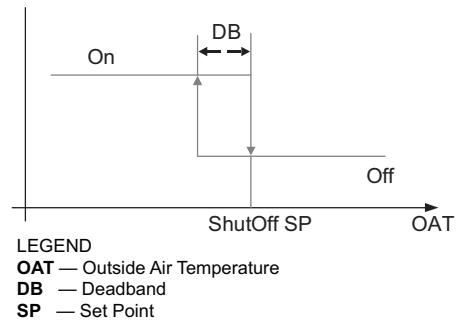

Fig. 50 — Hysteresis Settings
Hysteresis setting (DB) defaults to 2°F (-16.6°C). See Fig. 50.